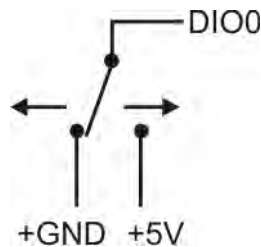

Figure 11. Schematic showing switch detection by digital channel DIO0
When you configure the digital bits for input, you can use the OM-USB-TEMP-AI digital I/O terminals to detect the state of a TTL-compatible device. Refer to the schematic shown in Figure 11. If you set the switch to the +5V input, DIO0 reads *TRUE* (1). If you move the switch to GND, DIO0 reads *FALSE* (0).